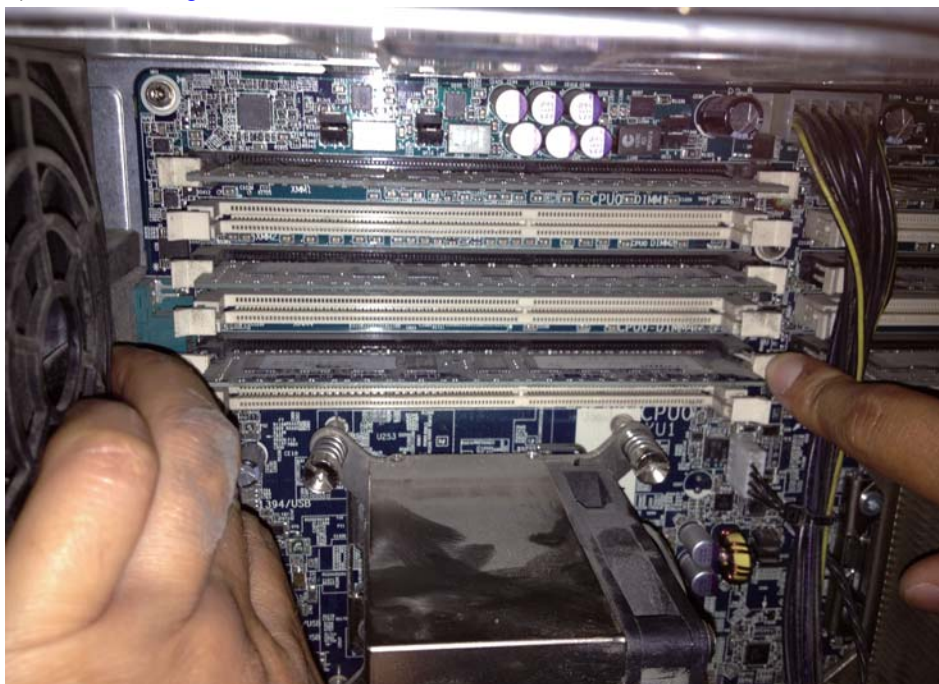

Figure 2-6 Memory removal
- 4.) Release two clamps both side of memory, and carefully pull the memory out of the slot (total 2Gx6), as shown Figure 2-6